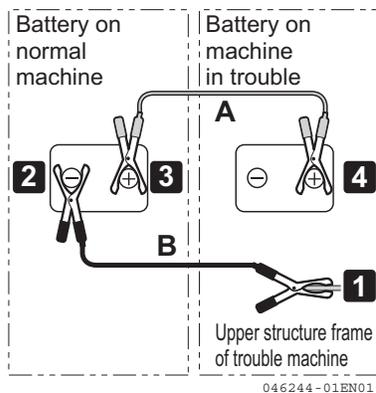

Fig. 7-8
1. Remove the clip of the booster cable (**Fig. 7-8, B**) from the upperstructure frame on the machine in trouble.
2. Remove the clip of the booster cable (**Fig. 7-8, B**) from the negative terminal on the normal machine.
3. Remove the clip of the booster cable (**Fig. 7-8, A**) from the positive terminal on the normal machine.
4. Remove the clip of the booster cable (**Fig. 7-8, A**) from the positive terminal on the machine in trouble.